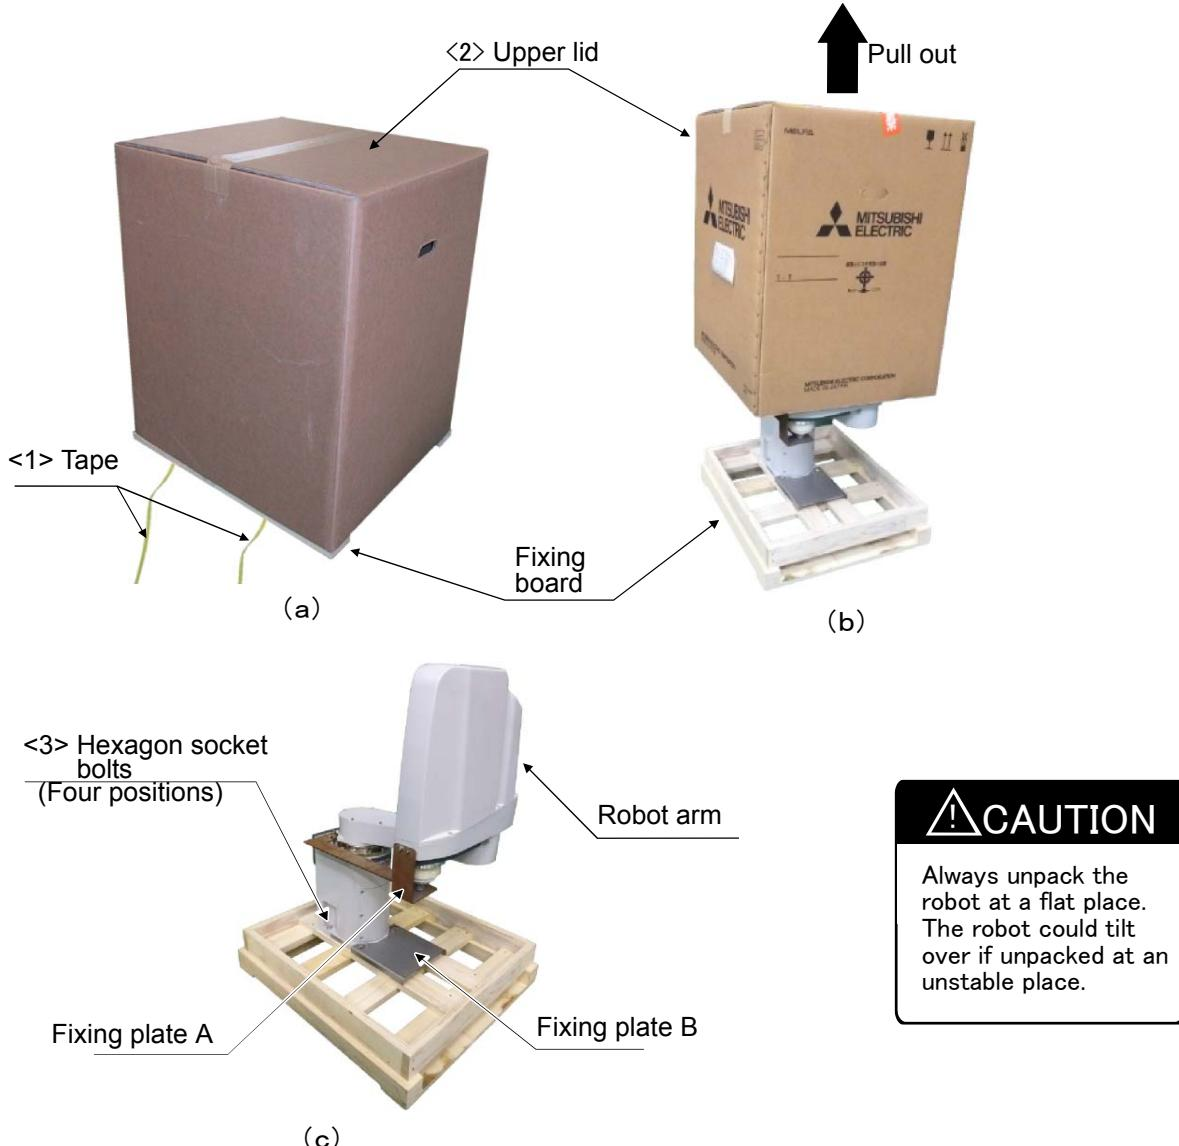

Fig.2-1 : Unpacking the robot arm
The robot is shipped from the factory in cardboard and plywood frame packing. Always refer to Fig. 2-1 and unpack the robot.
- 1) Using a knife, etc., slit the tape <1> fixing the upper lid <2> of the cardboard box. (Fig. 2-1 \(a\))
- 2) Pull the upper lid <2> of the cardboard box off with both hands. (Fig. 2-1 \(b\))
- 3) Remove the hexagon socket bolts <3> (four positions) which fix the robot. (Fig. 2-1 \(c\))